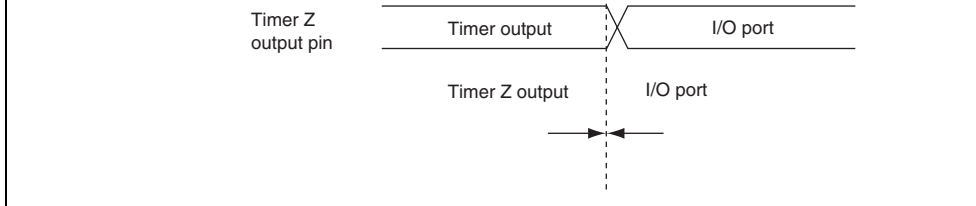

Figure 13.44 Example of Output Disable Timing of Timer Z by Writing to TOER
1. Output Disable/Enable Timing of Timer Z by TOER: Setting the master enable bit in 1 disables the output of timer Z. By setting the PCR and PDR of the corresponding I beforehand, any value can be output. Figure 13.44 shows the timing to enable or disable output of timer Z by TOER.